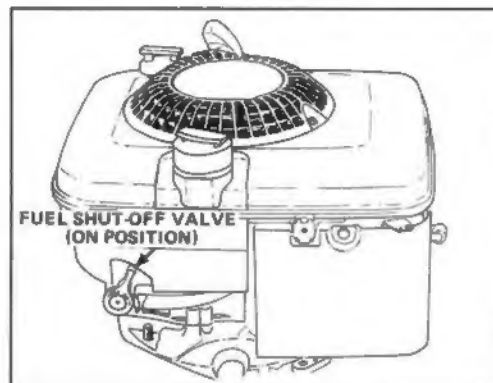

Figure 4
3. Move fuel shut-off valve to the ON position (Fig. 4).
1. **CHECK OIL LEVEL**—Maintain oil level between ADD and FULL marks as shown on dipstick (Fig. 4).